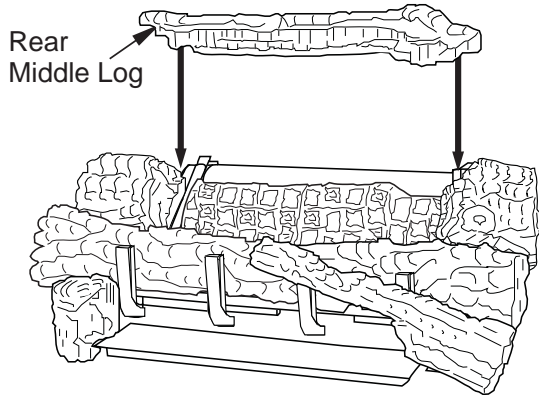

Figure 34 - Installing Rear Middle Log
- The rear middle log should fit between the ramp log and the rear burner. The left and right middle logs have recessed areas for the rear middle log to sit into (See **Figure 34, Page 20**). Be careful not to push the rear burner out of position while installing this log.